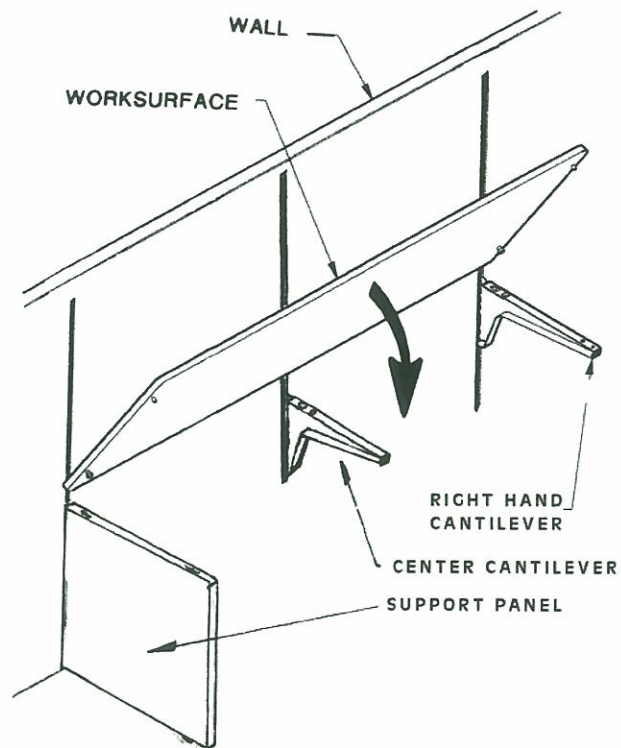

Figure 14
5. Install work surface onto cantilevers and end panel (one side at a time) by inserting rear spacers through teardrop holes in rear of cantilevers. Push work surface back until front pins engage front holes in cantilevers. **See Figure 14.**